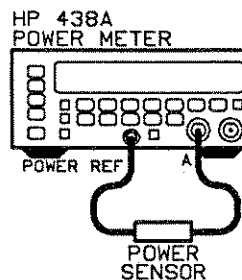

Figure 3-3. Front Panel Checks Setup (1)
4. Connect a power sensor with associated cable to channel A input as shown in Figure 3-3. The error message should disappear and display will show either a power level, or PLEASE 0, and Error 15. Annunciators WATT A, 100% CF, and A on.